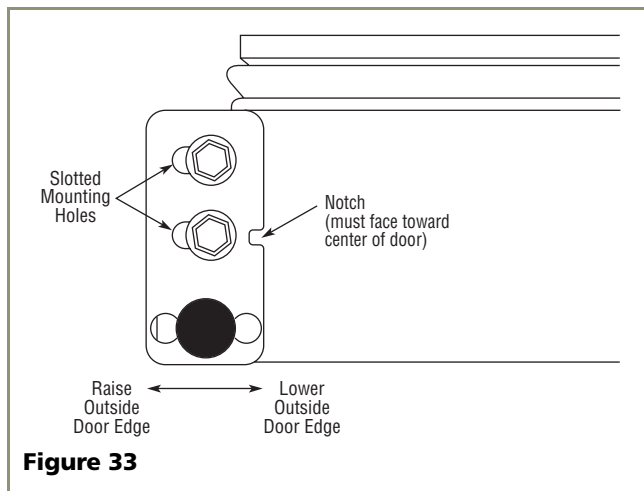

Figure 33
3. See **Figure 33**. If the top far edge of the door needs to move UP, move the hinge plate toward the outside of the door and retighten screws. If the top far edge of the door needs to move DOWN, move the hinge plate toward the inside of the door and retighten screws.